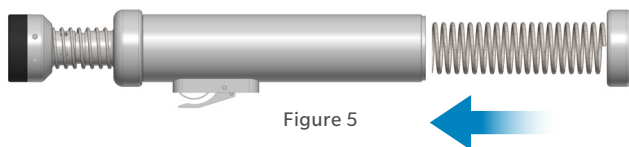

Figure 5
4. Assemble the sub-assembly with the impulse spring (3) and the impactor plate (1) by screwing the impactor plate onto the housing (2) as shown on Figure 5.